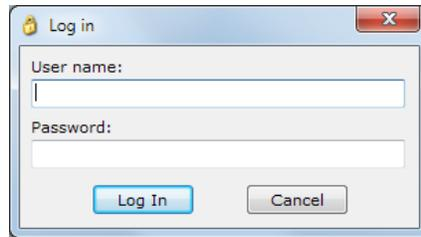

Figure 9-1. Login Screen
1. Use the Settings Explorer in BESTCOMSPi^{us} to select Username Setup under General Settings, Device Security Setup. The Login dialog box appears. See Figure 9-1. An administrator access level is required to set up usernames and passwords.
2. The Login dialog box pops up. See Figure 9-1. An administrator access level is required to set up port access. Enter the username and password of the administrator and then click the Log In button. The default administrator username is “A” and the default password is “A”.